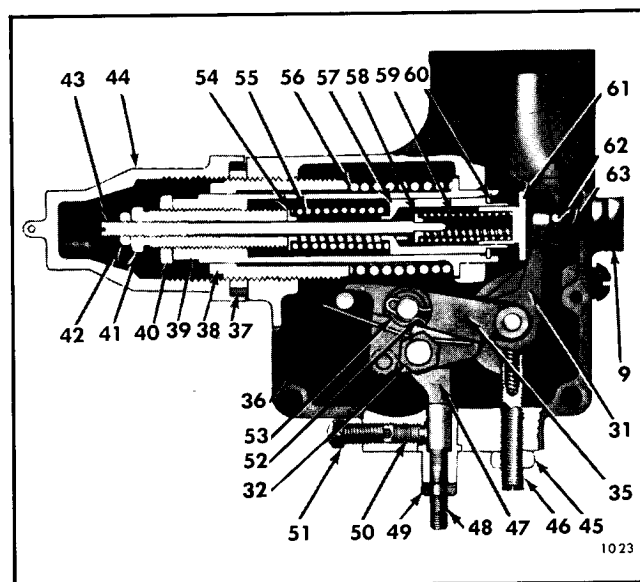

Fig. 1—Fuel Modulating Governor Spring
Prior to adjustment, the service man should read the following instructions, study the illustrations, and familiarize himself with the general design, nomenclature and location of various parts. Refer to Fig. 1 for all nomenclature references in the following text.
- A. Remove the governor adjustment cover (44), Fig. 1, control housing cover, housing plug (9) and copper gasket. Disconnect the governor external control linkage and remove the cylinder head cover.
- B. Loosen the idle speed screw lock nut (42) and back out idle screw (43) until the low speed spring (59) exerts no pressure on the low speed spring cap (61). This may be determined by moving the low speed cap in and out. Use care not to back the screw out too far as it is possible